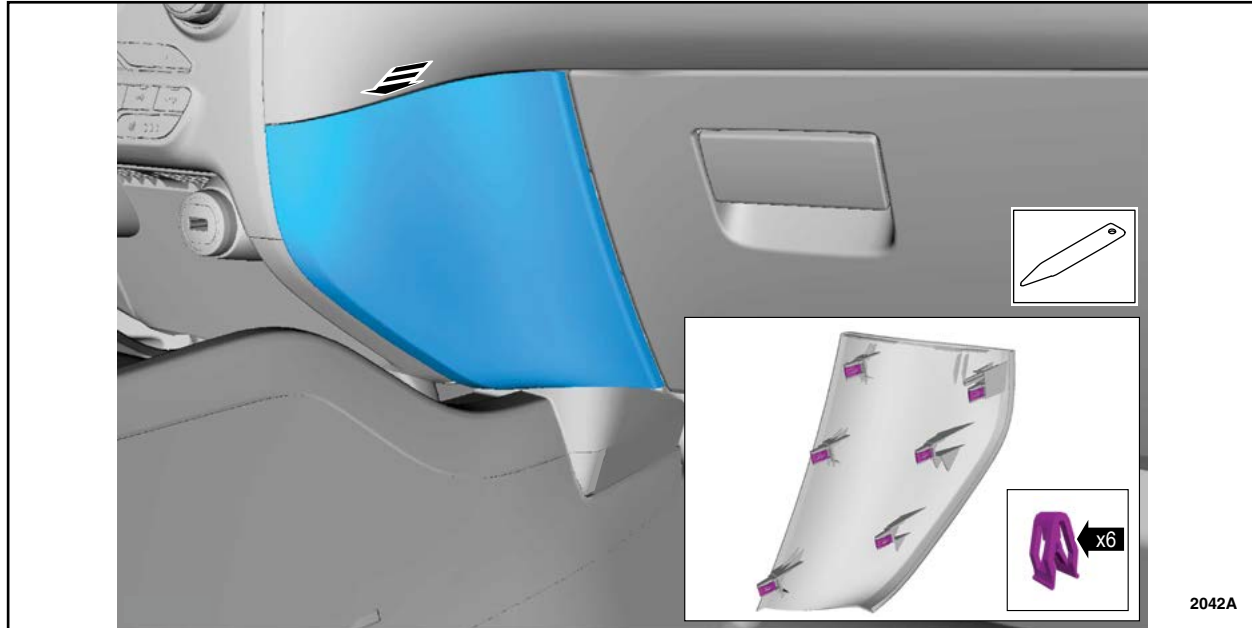

FIGURE 4
5. Using a plastic interior trim tool, release the retainers and remove the lower right hand (RH) center stack trim panel. See Figure 4.
16. Install the lower RH center stack trim panel. See Figure 4.